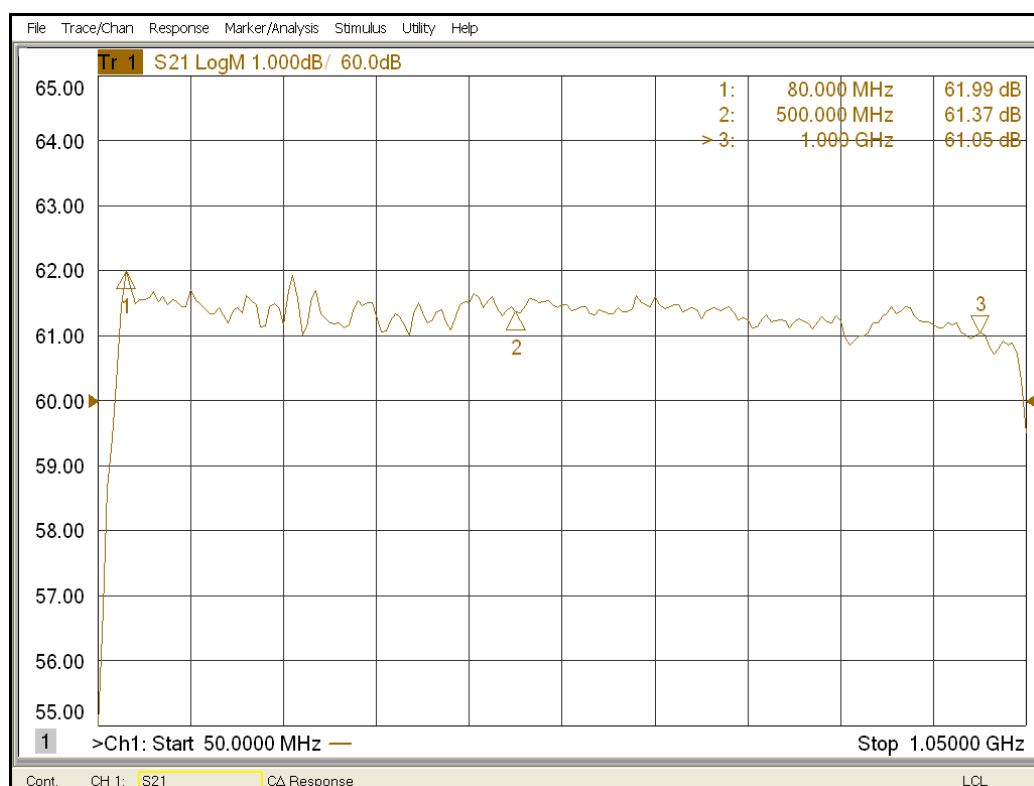
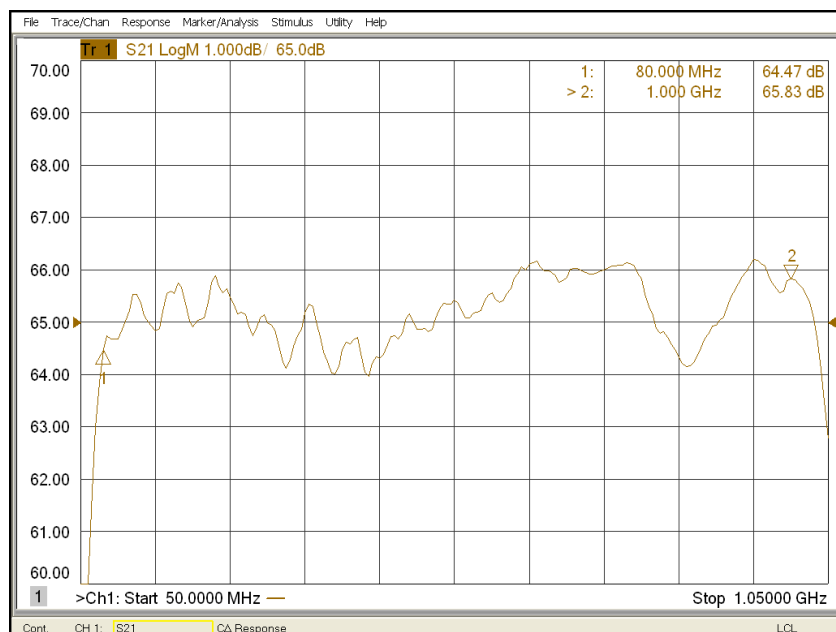

Figure 4-1. Typical Response at 0 dBm Input
Figure 4-2. Typical Response at -20 dBm Input
- The Model 1000W1000G's typical gain response at 0 dBm input and -20 dBm input is shown in Figures 4-1 and 4-2. The actual gain may vary considerably from that shown in Figure 4-1 but should be ≥ 60 dBm. Figure 4-2 should be ≥ 64.0 dBm. *NOTE: If the overall gain is low, the amplifier chain can be separated at the input of A3 Two-Way Splitter.*